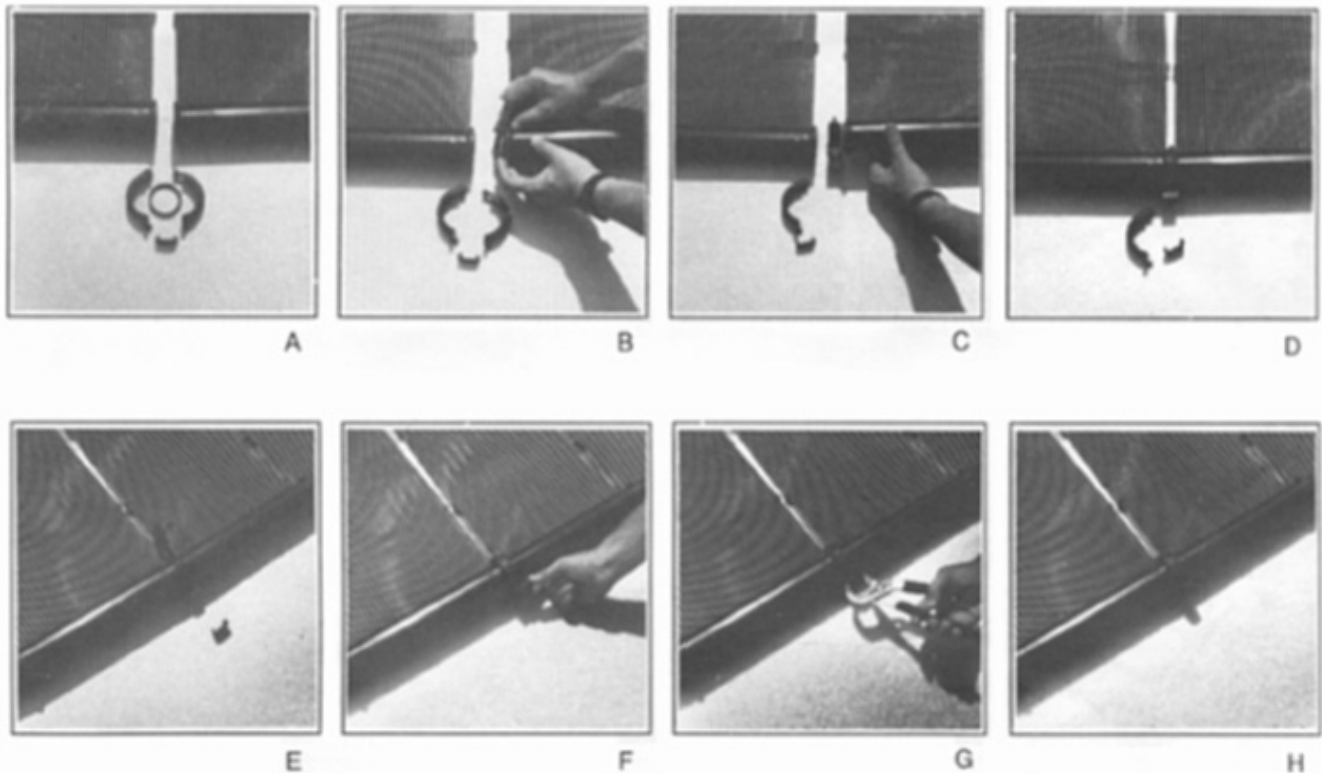
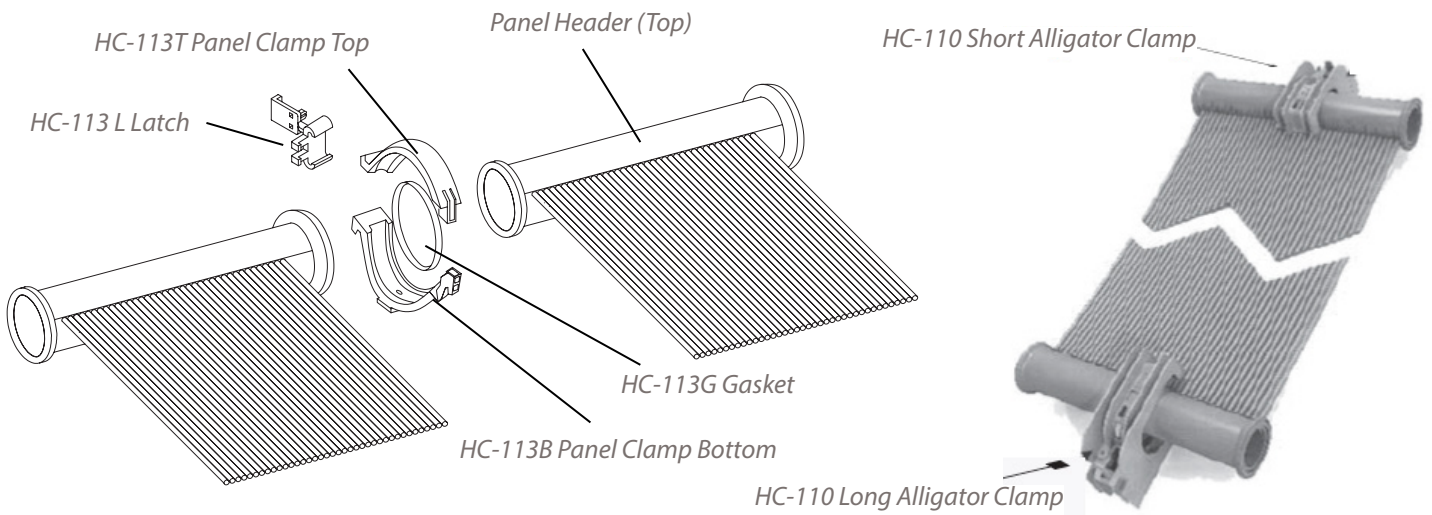

Fig. 7.1
Fig. 8.1
1. Place two collectors next to each other. The spacer bars that hold the individual riser tubes together should be facing down. Lay a plastic panel clamp (113) top, bottom, gasket, and clip where the two headers meet. (Fig. 7.1-A).
3. Spray the gasket with silicon and insert it into the groove of one of the headers. Make sure that the gasket is fully seated into the header groove by pushing firmly with your thumb all the way around the gasket. (Fig. 7.1-B).
4. Place the bottom half (see Fig. 8.1) of the plastic panel clamp (113) under the collector header with the hook portion of the panel clamp facing the inside of the collectors. (Fig. 7.1-C).
5. Seat both headers together by inserting the gasket into the opposite header groove and placing the ends of both headers into the open space in the panel clamp bottom. (Fig. 7.1-D).
6. Interlock the top half of the panel clamp with the hook on the bottom half. Swing top half over top of collector headers. Squeeze the top and bottom portions of the panel clamp together using channel lock pliers and lock both halves of the clamp together using the locking clip. (NOTE: Slide large end of locking clip over small end of plastic panel clamp assembly). (Fig. 7.1 - E & F).
7. Use channel lock pliers to tighten the clip grip by squeezing it with reasonable force until it seats flush or even slightly farther so it cannot slide out of its position. (Fig. 7.1-G).